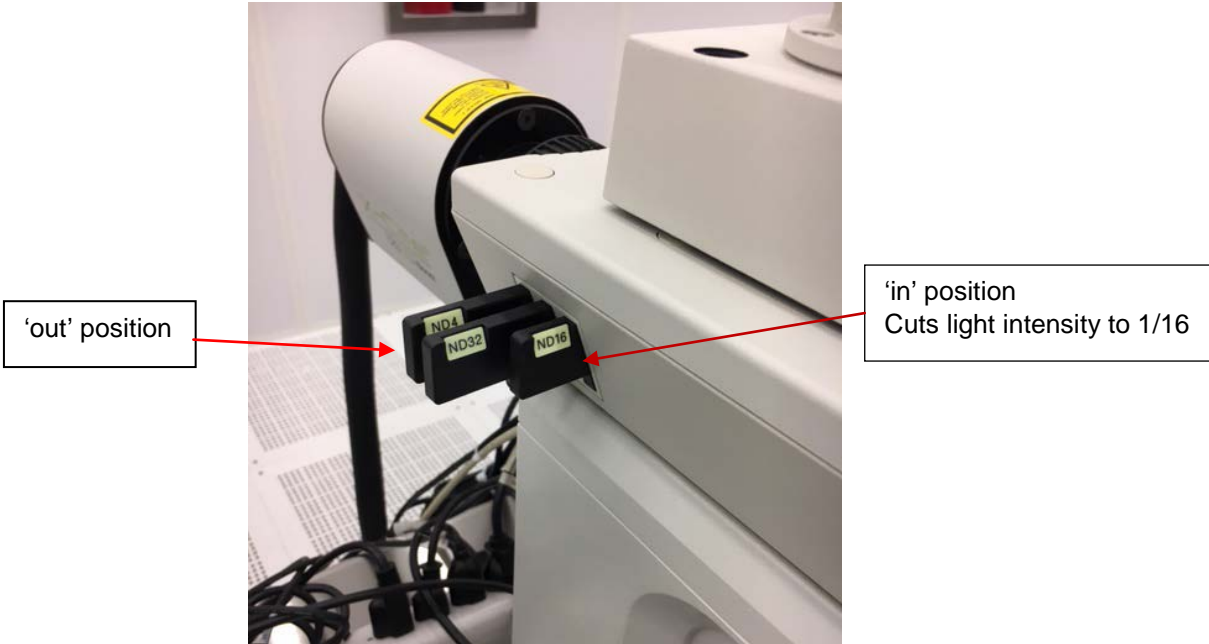

Figure 3: Neutral Density Filters
3) Adjust the filters (Figure 3, 4, and 5).